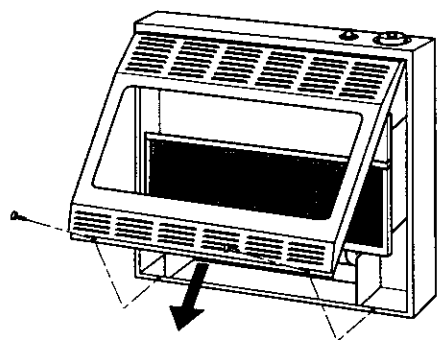

Figure 2 - Removing Front Panel of Heater
2. Pull bottom of front panel forward, then down (see Figure 2).